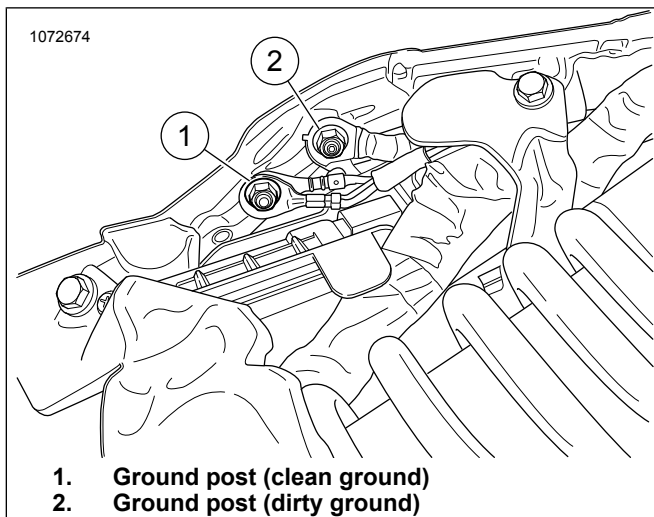

Figure 23. Frame Ground
See Figure 23. Route and connect ATM ground wire to rear clean ground post (1). Tighten to: